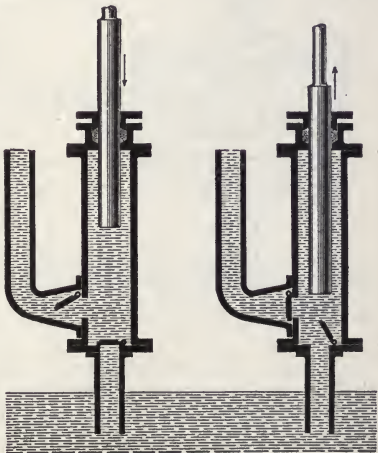

FIG. 28
74. Plunger Pumps.—When force pumps are used to convey water to great heights or to force water against heavy pressures, the great pressure of the water makes it extremely difficult to keep the water from leaking past the piston, and the constant repairing and renewal of the piston packing becomes a nuisance and involves serious expense. To obviate this drawback, plunger pumps have been designed, one of which is shown diagrammatically in Fig. 28. The action